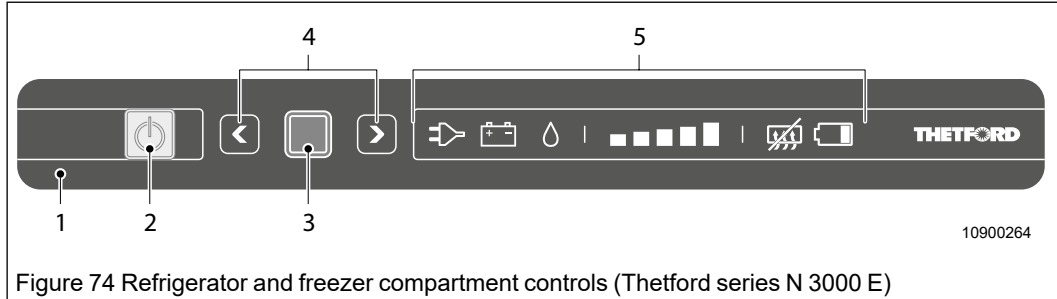

Figure 74 Refrigerator and freezer compartment controls (Thetford series N 3000 E)
To switch between functions press the confirmation button (Figure 74/3) for approx. 2 seconds. Then select the desired mode with the arrow buttons (Figure 74/4). For more information, see the separate instructions from the manufacturer.
- On refrigerators with manual power selection (MES), press the button (Figure 74/3) repeatedly until "Gas mode" is selected. Ignition is then automatic.